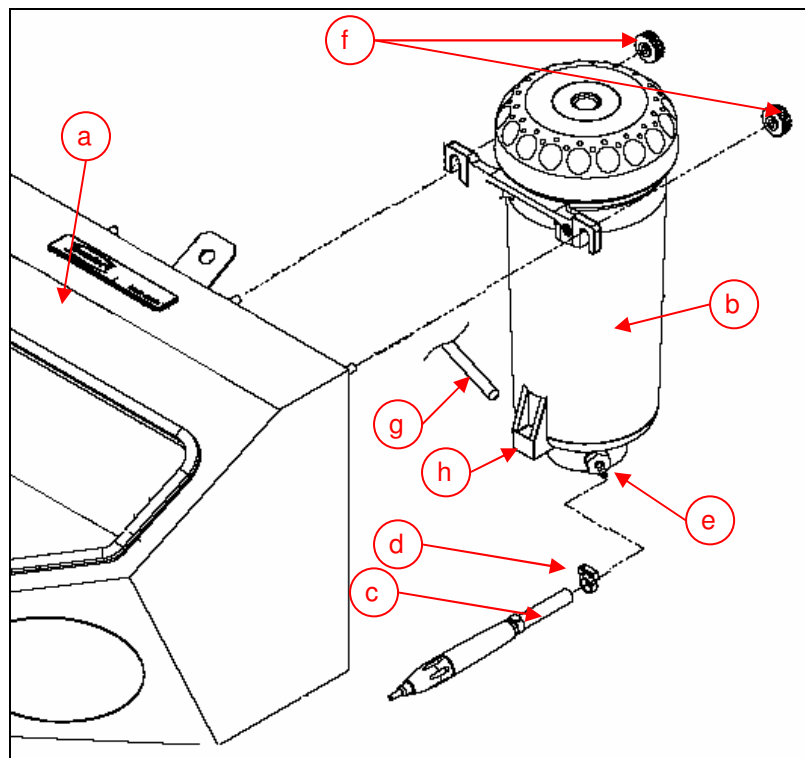

Fig. 2 - Tank and body
- Loosen the knurled nuts (fig. 2 f).
- Hang out the tank (fig. 2 b) at the body (fig. 2 a).
- Pull the pressured air hose (fig 2 g) out of the push-in connector at the tank.
- Remove the blasting hose (fig. 2 c) by opening the hose clamp (fig. 2 d) and pulling it from the hose nozzle (fig. 2 e).
- Restore the tank at the body and fasten the knurled nuts (fig. 2 f).
- Take care that the tank retaining collar (fig 2 h) is hung in at the body correctly.